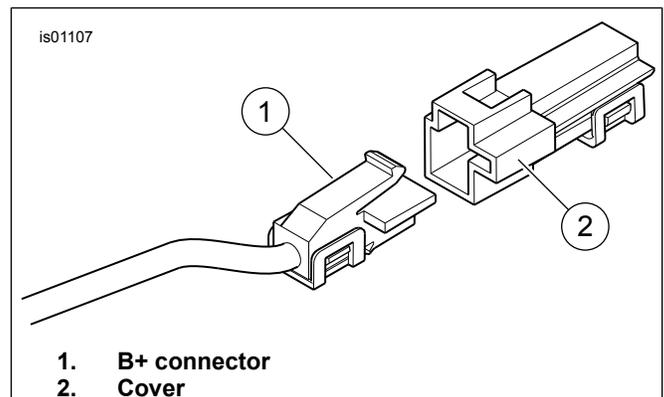

Figure 20. B+ Connector
1. See Figure 20. Locate the B+ (battery positive) connector (1) (a red wire with an unused gray connector) on the main electrical harness. Remove the cover (2) from the connector.